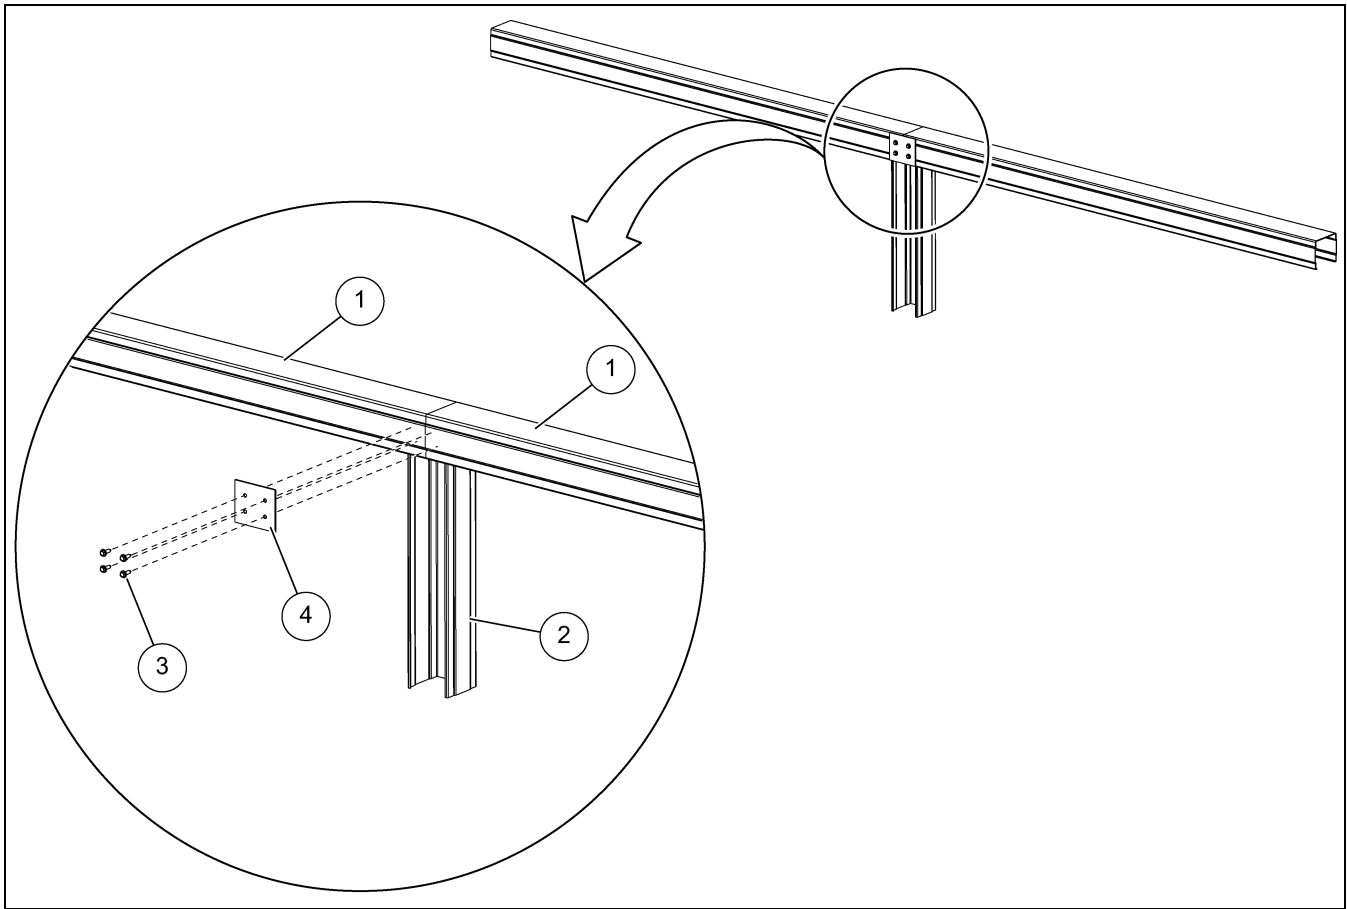

Figure 3 Installing the Monorail Splice Plate
3. Use the four self-tapping screws (3) and the monorail splice plate (4) on the other side of the monorail joint as shown in Figure 3. (**NOTE:** See the orientation of the monorail leg (2) in Figure 3.)